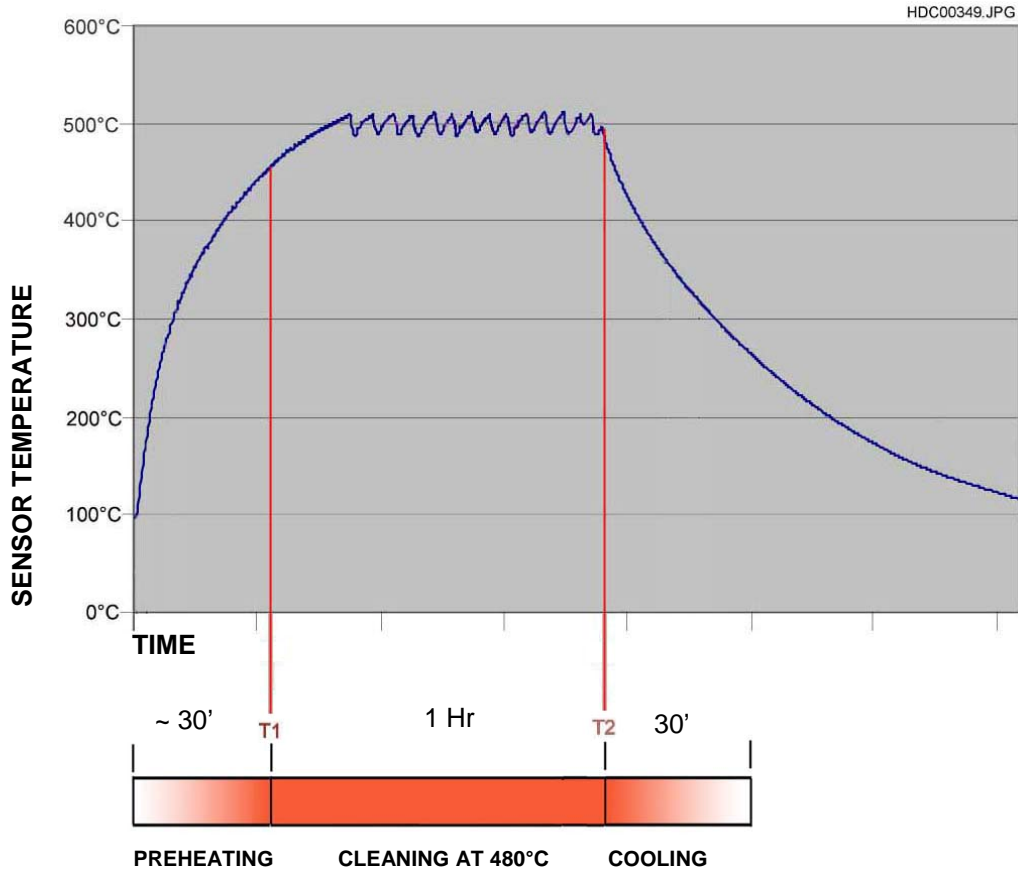

Fig. 42
- approx. 1 hour for program P1 (see Fig. 42).
At the end of the self-cleaning time (during the final 30 minutes, see diagrams Fig. 42 and Fig. 43), all heating elements are shut off.